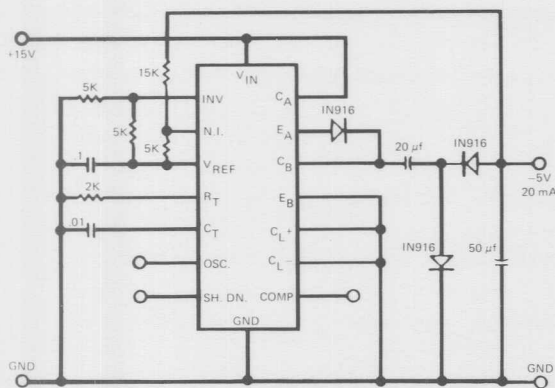

Figure 15: Circuit Connection for Polarity Converting Regulator ( $V_{in} = +15V$ ,  $V_{out} = -5V$ ).
**Polarity Converting Regulator:** The XR-1524 pulse-width modulating regulator can be interconnected as shown in Figure 15. The component values shown in the figure are chosen to generate a -5-volt regulated supply voltage from a +15-volt input. This circuit is useful for an output current of up to 20 mA with no additional boost transistors required. Since the output transistors are current limited, no additional protection is necessary. Also, the lack of an inductor allows the circuit to be stabilized with only the output capacitor.